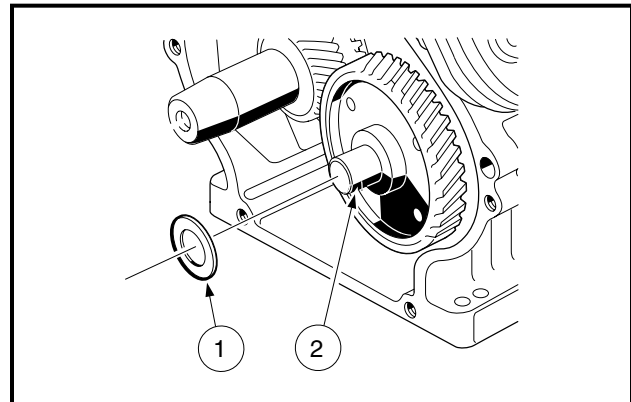

Figure 18-96 Shim Installation on Camshaft
5. Install the shim (1) on the camshaft (2) (**Figure 18-96, Page 18-44**).